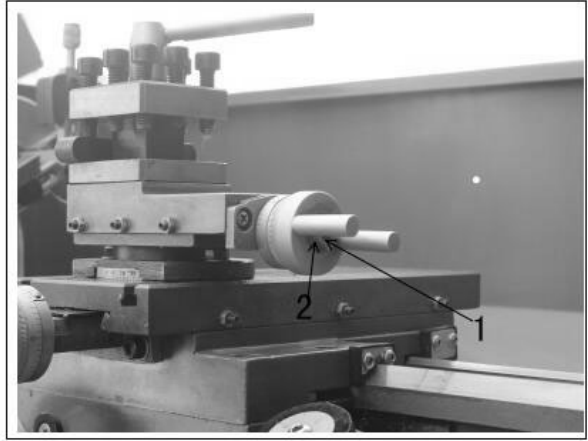

Figure 33
1. Loosen screw (1, Figure 33) and lock nut (2, Figure 33).
2. Adjust the nut until all play has been taken up. Lock the nut (2) with the screw (1).